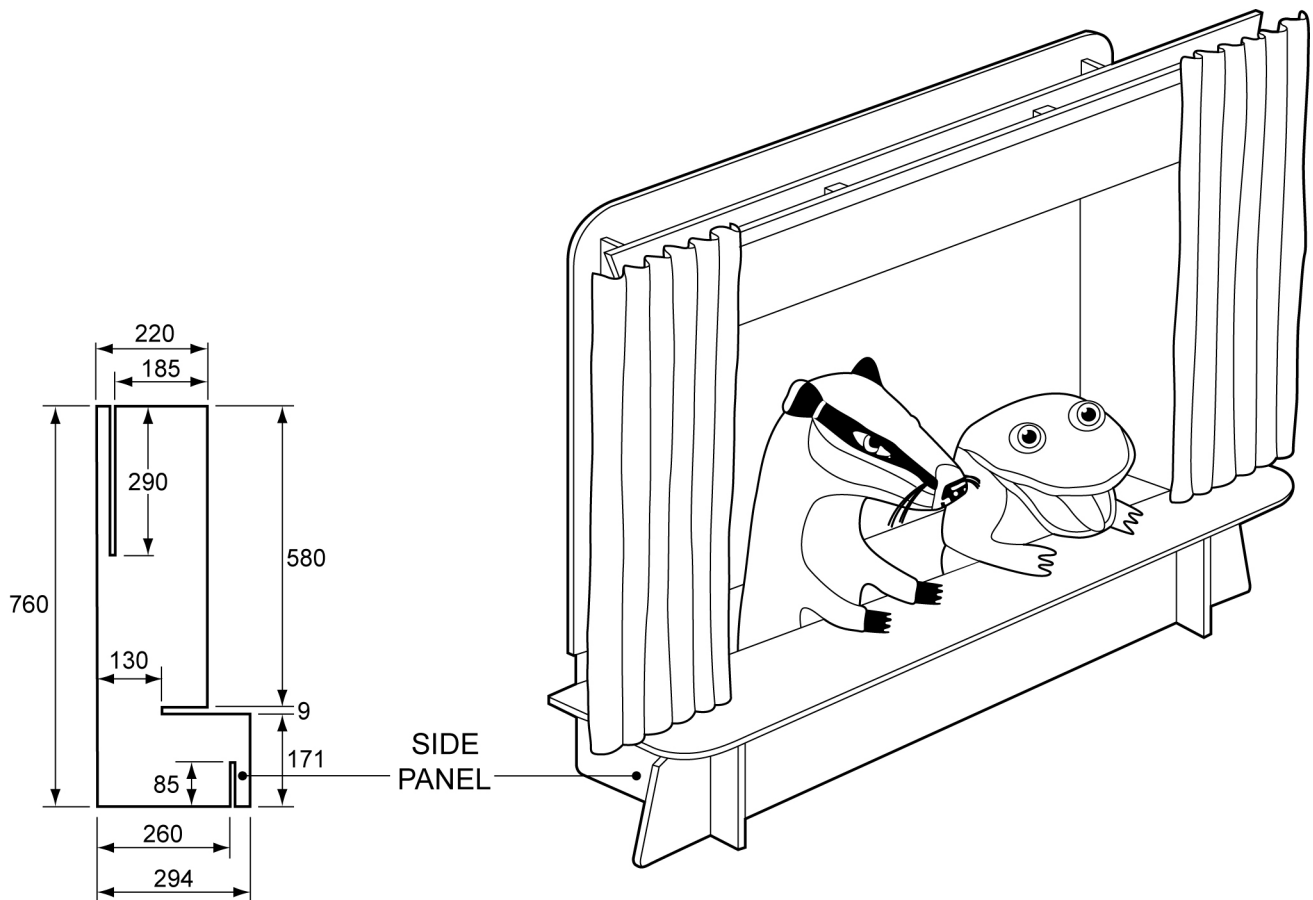

Fig. 1
- 1 Fig. 1 shows a puppet theatre which is to be made from wood in a school workshop.